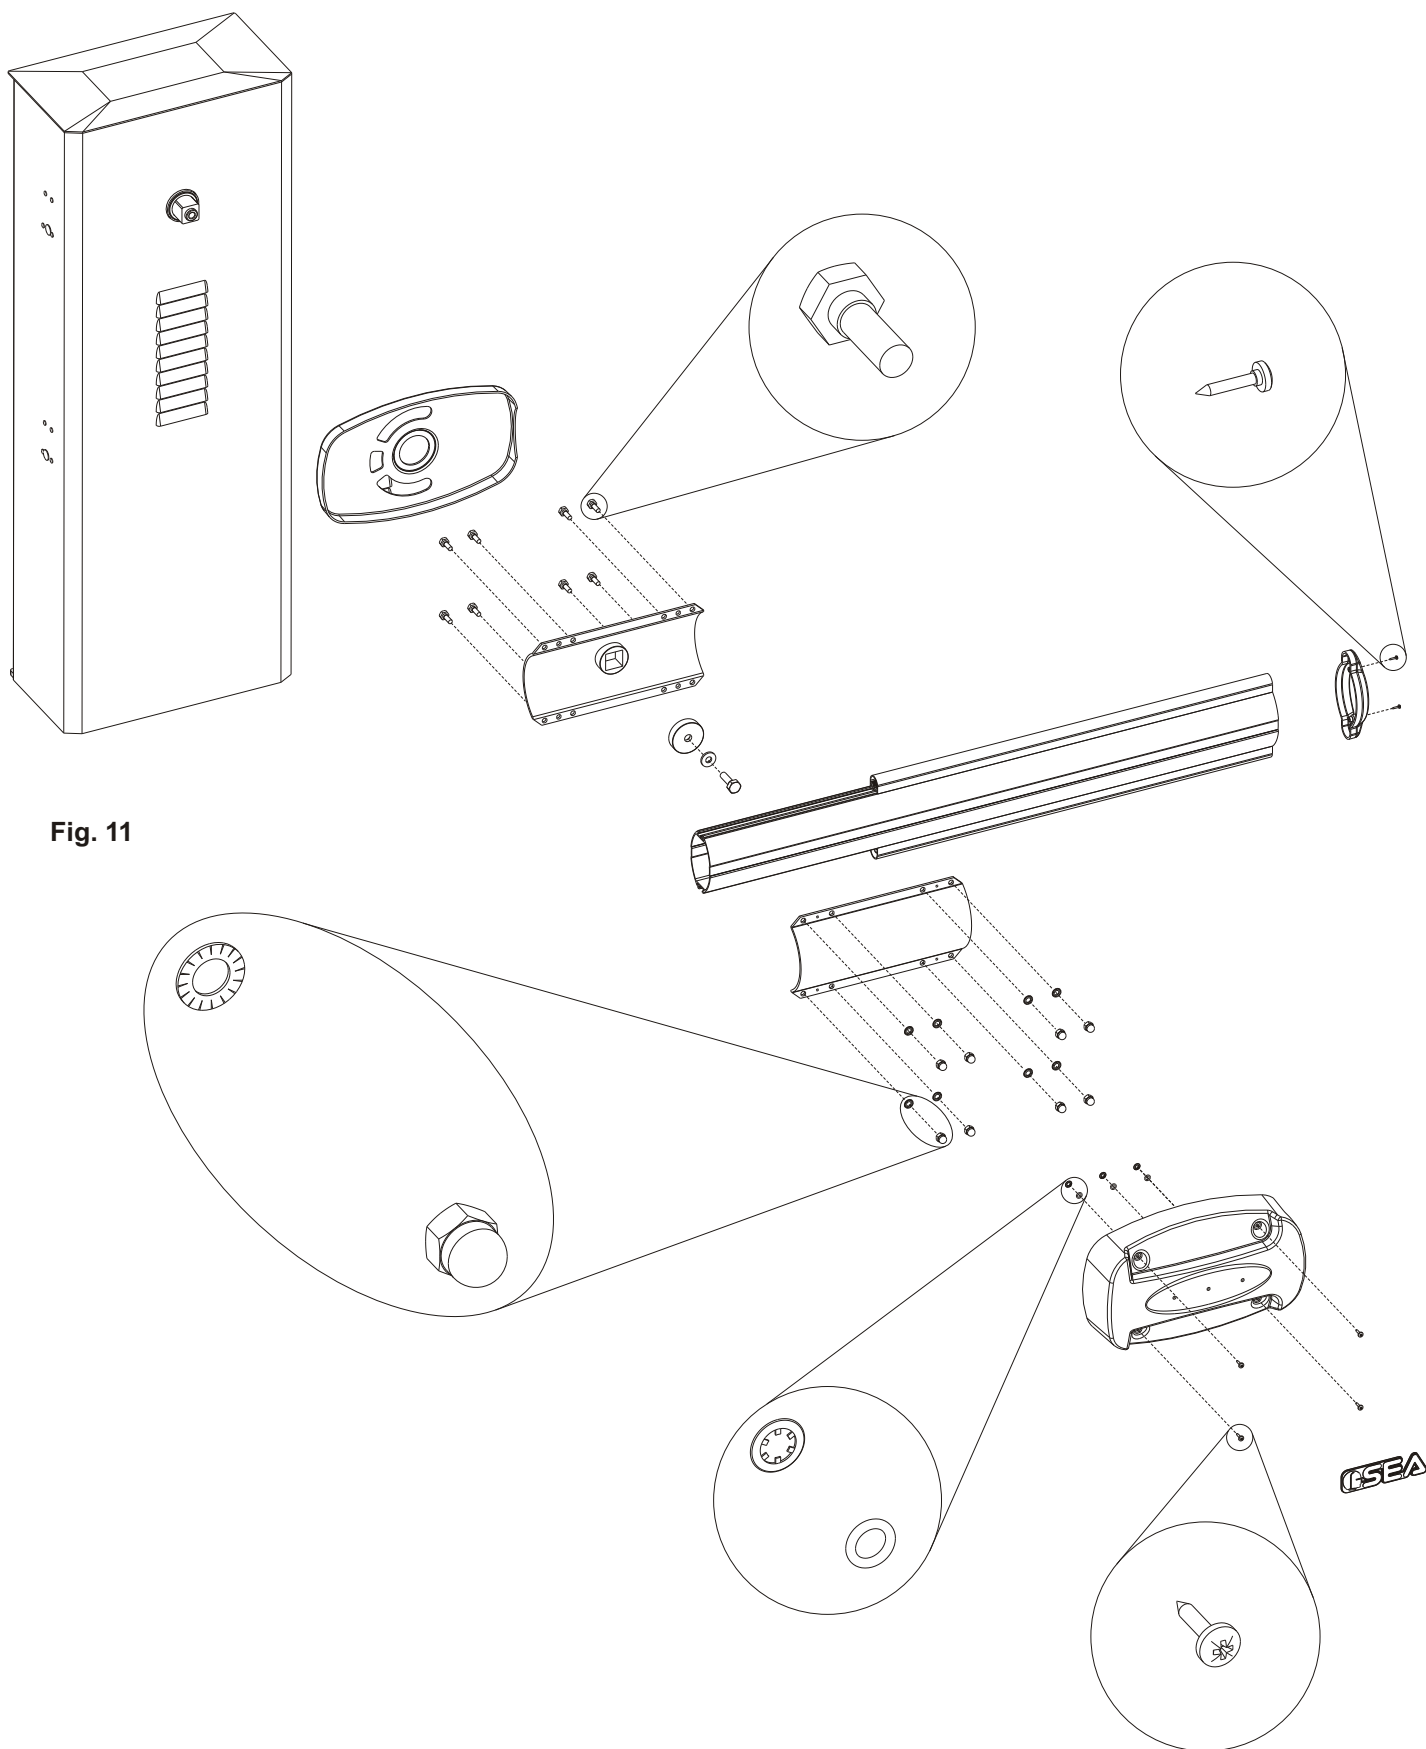

Fig. 11
6) Mounting of the beam (Fig. 11)